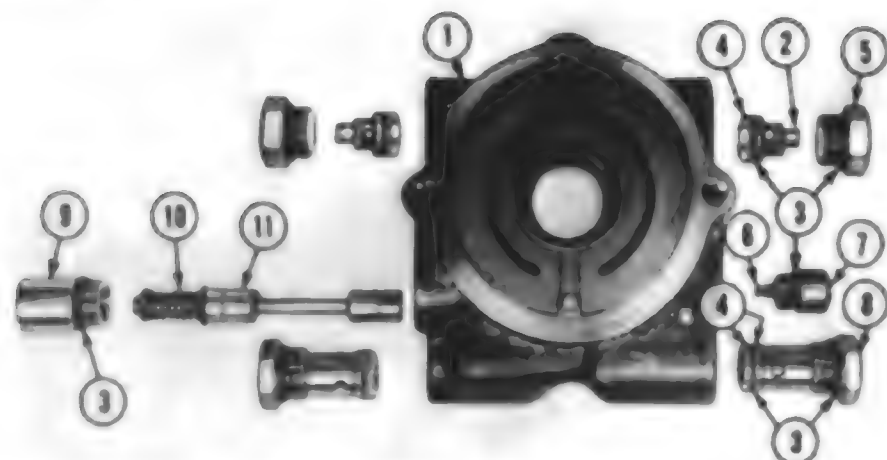

Fig. 121—Exploded view of center section assembly.
**98. CENTER SECTION.** The center section (Fig. 121) contains the shuttle valve, forward and reverse check valves and forward and reverse drive high pressure relief valves. To disassemble the center section, remove plugs (6) and check valves (2). Remove both high pressure relief valves (8). If not previously removed, remove spring plug (7) with spring (6) and the shuttle valve retainer plug (9). Withdraw the shuttle valve spool assembly. Remove the snap ring, washers and return spring (10) from the spool. Clean and inspect all parts. Check shuttle valve spool (11) and spool bore in body (1) for excessive wear or scoring.
Centering spring (10—Fig. 121) should have a free length of 1.59/64 inches and